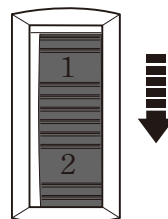

Fig. 5
- > Turn the speed dial (1) backward (as seen from the operator's position) to decrease the maximum speed (Fig. 5). A lower setting is suitable for cutting with coarse saw blades and hard materials.